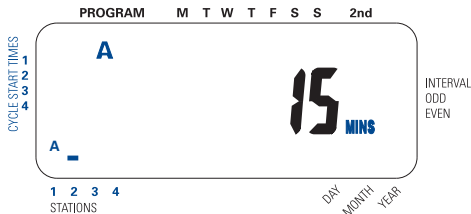

Figure 4: Entering Duration for “Program A”
- Turn the rotary dial to the STATION DURATION position in “Program A”. The display will show an “A” and MINS. [See Figure 4]
- Press and hold the ▲ or ▼ key to enter the watering duration and press the ENTER key. You should see an “A” over the Station just programmed. [See Figure 4]